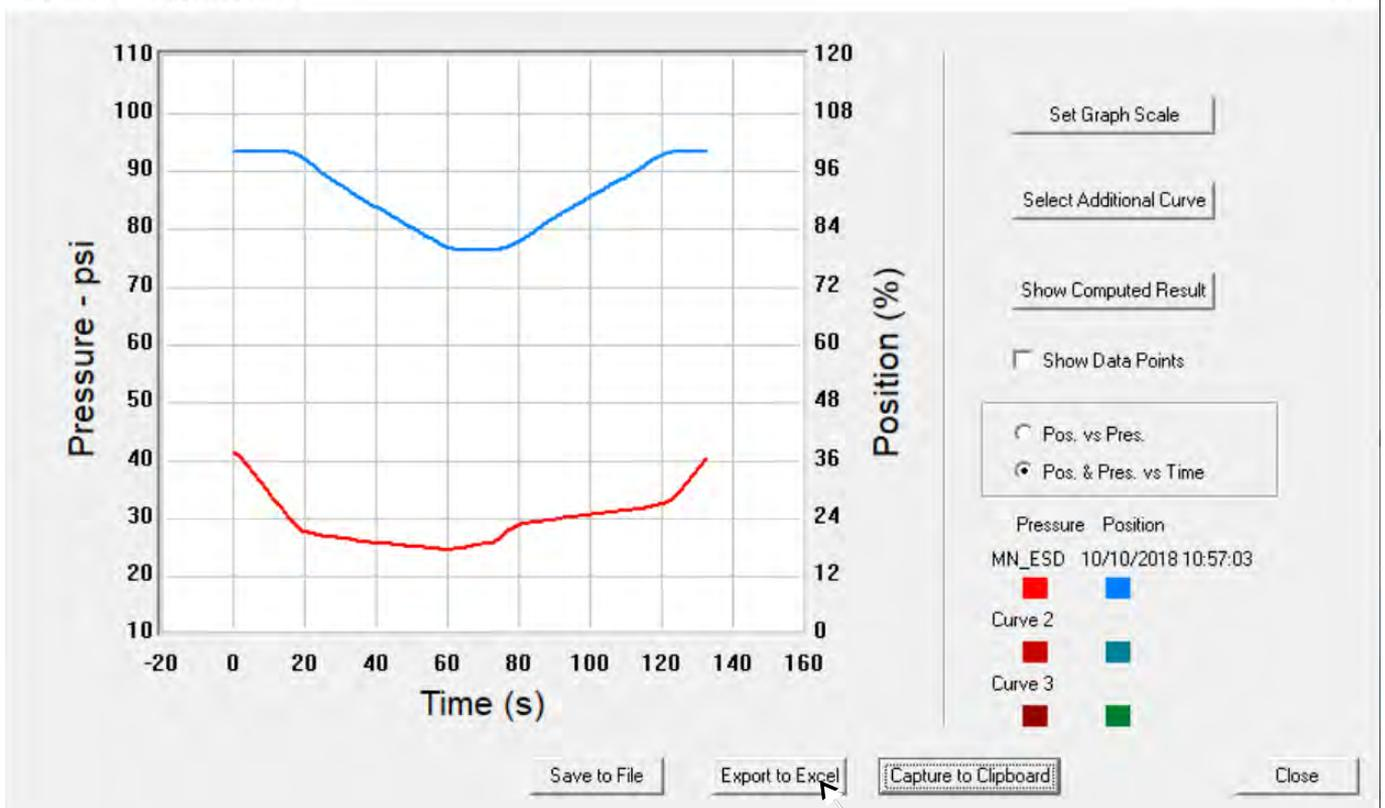

Figure 276 Selecting Export to Excel
- Click **Export to Excel** (Figure 276).